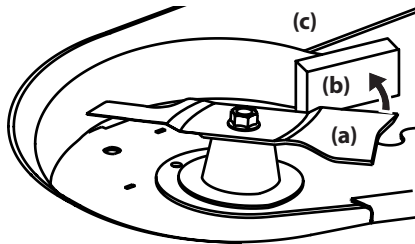

Figure 36
3. Wrap a rag around one end of the blade (a) and grasp it to prevent it from turning, or secure the blade (a) by placing a block of wood (b) between the blade (a) and the deck housing (c) (Figure 36).